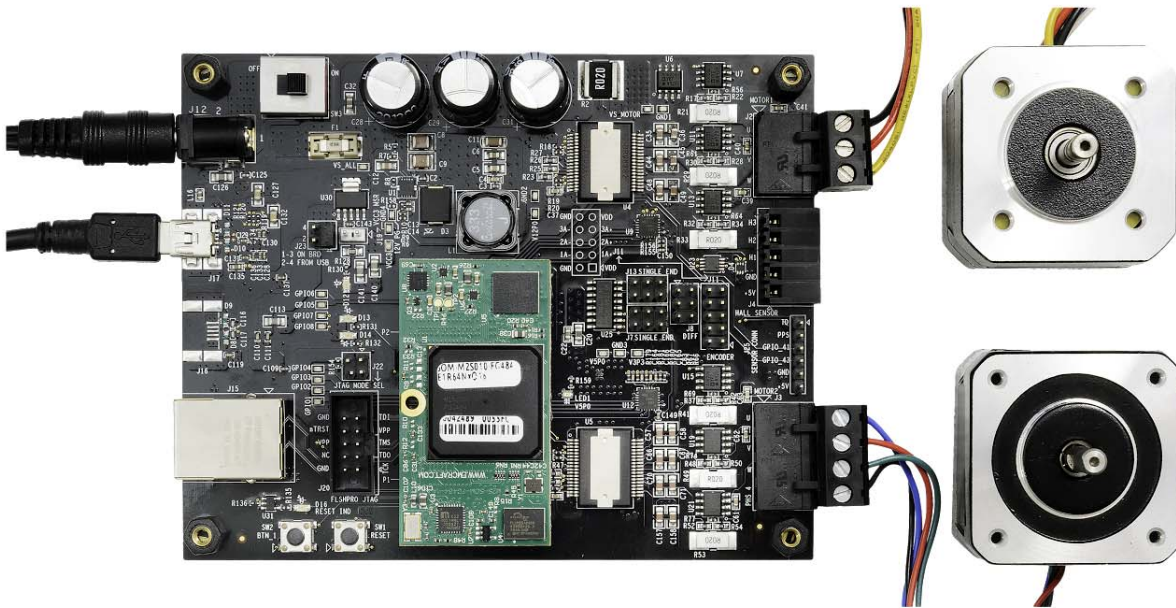

Figure 2 • SmartFusion2 Dual Axis Motor Control Demo Hardware Setup
Figure 2 shows the hardware setup for one BLDC motor in Sensorless FOC and a stepper motor in FOC.
2. Connect the BLDC motor (QBL4208-41-04-006) to J2 connector on the board as shown in Figure 2.
3. Connect the Stepper motor (QSH4218-35-10-027) to **J3** connector on the board as shown in Figure 2 on page 7.